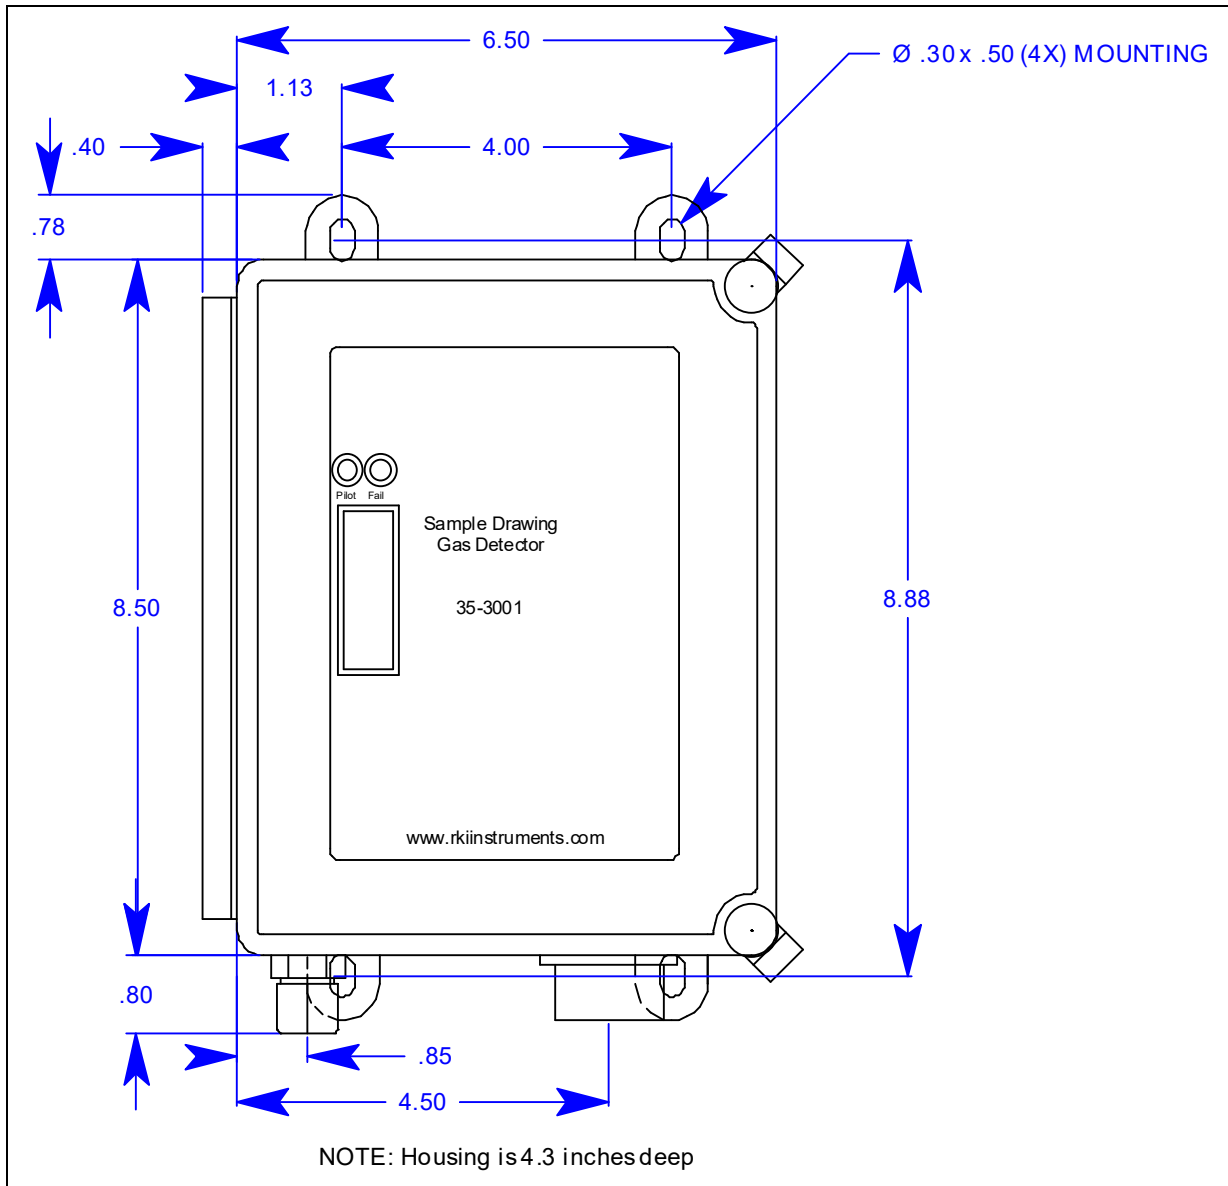

Figure 3: Outline and Mounting Dimensions
3. Slightly loosen the screw that secures the mounting foot to the housing, then rotate the mounting foot 180 degrees (see Figure 3).